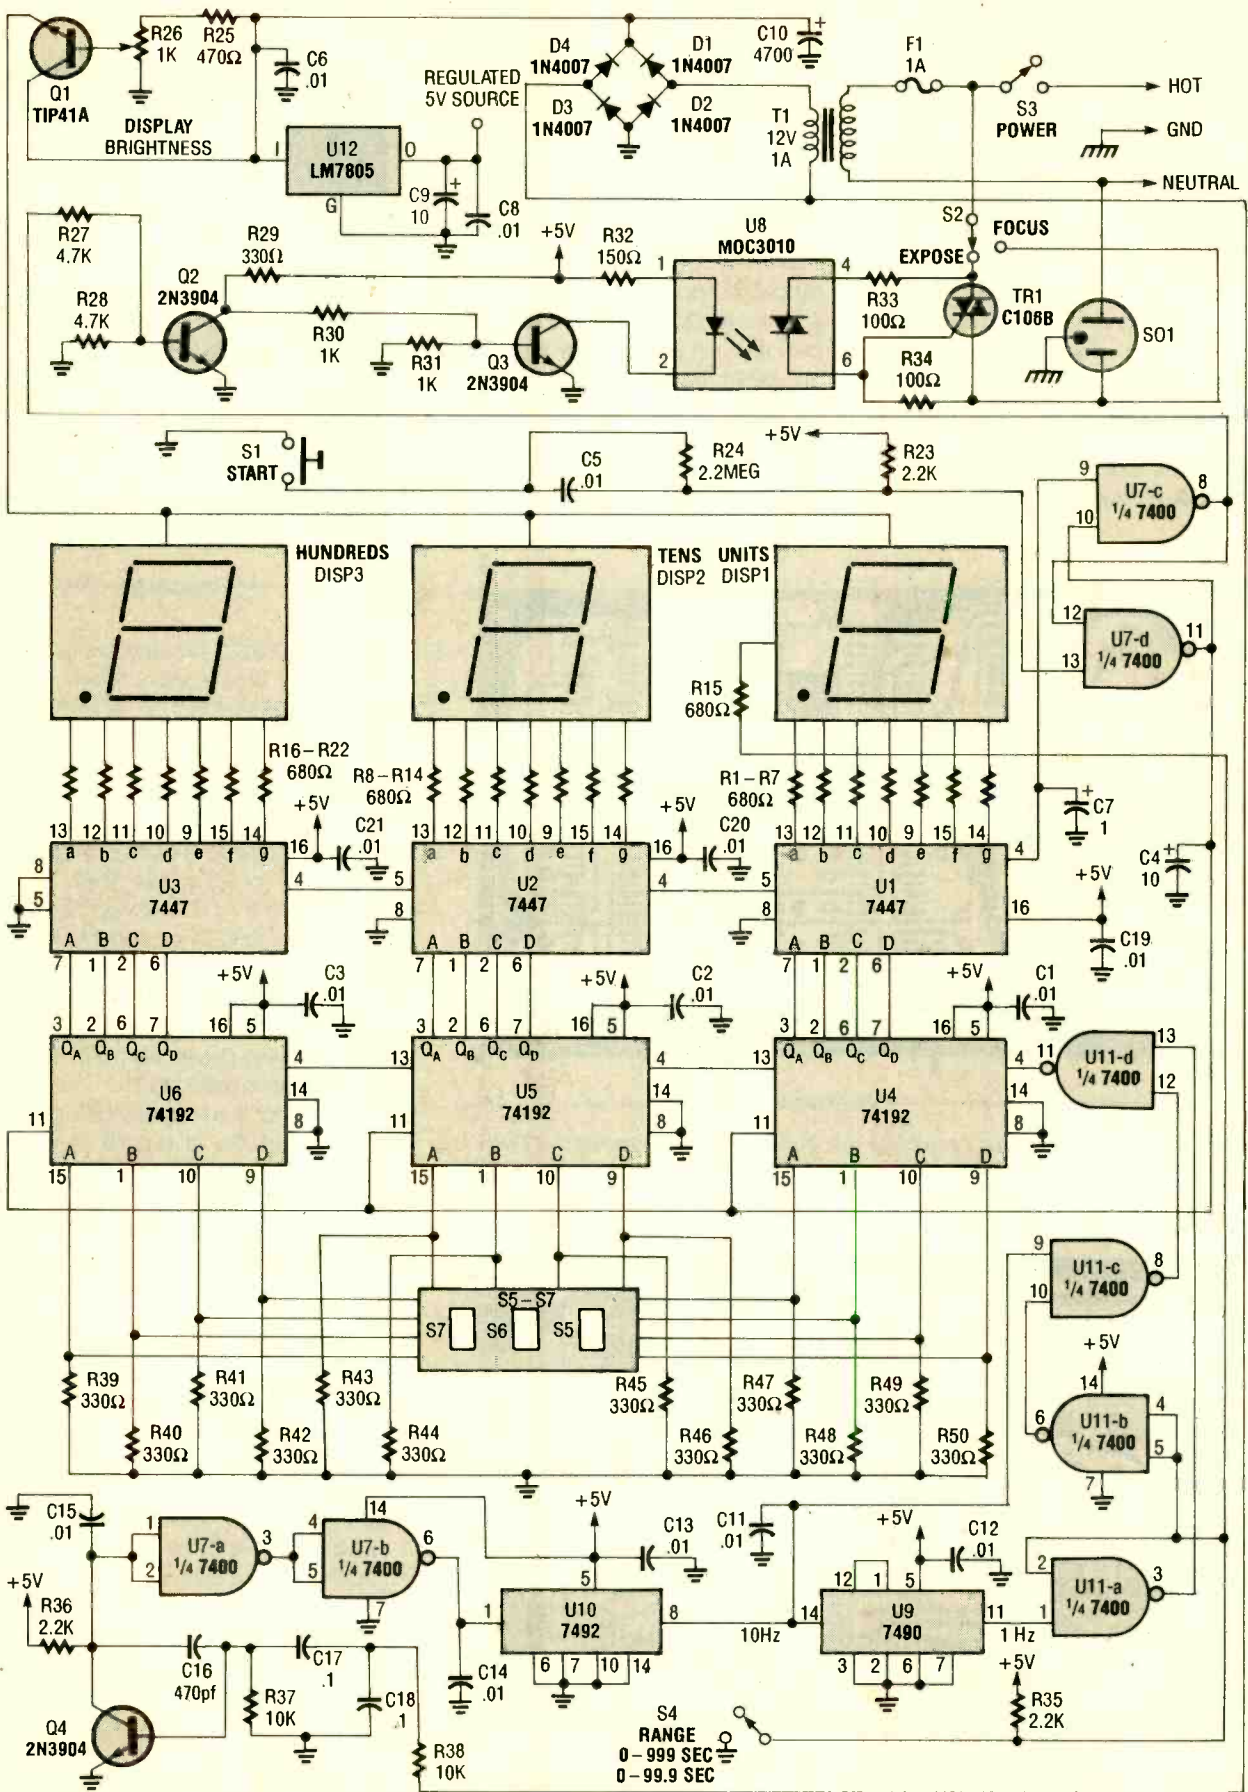

Fig. 2. The Digital Darkroom Timer uses a pair of counters in its speed-selection circuitry to provide selectable count ranges.
**Circuit Discussion.** A detailed schematic diagram of the Digital Darkroom Timer is shown in Fig. 2. When S3 (the POWER switch) is turned on, the AC line voltage divides along two paths. In one path, the AC power